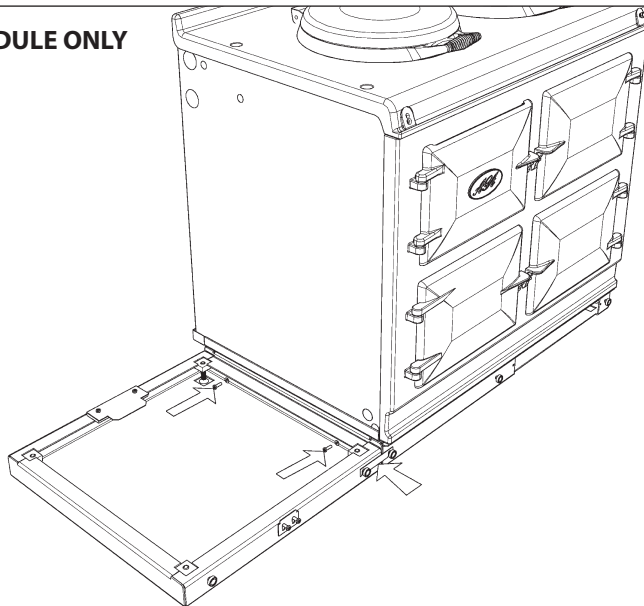

Fig. 10.5
8. Attach Module plinth to the AGA 7 Series plinth using 2x M6 screws and washers provided (See **Fig. 10.5** or **Fig. 10.6**). Slide front jointing bracket into place over two adjacent magnets, locking the two appliances together.